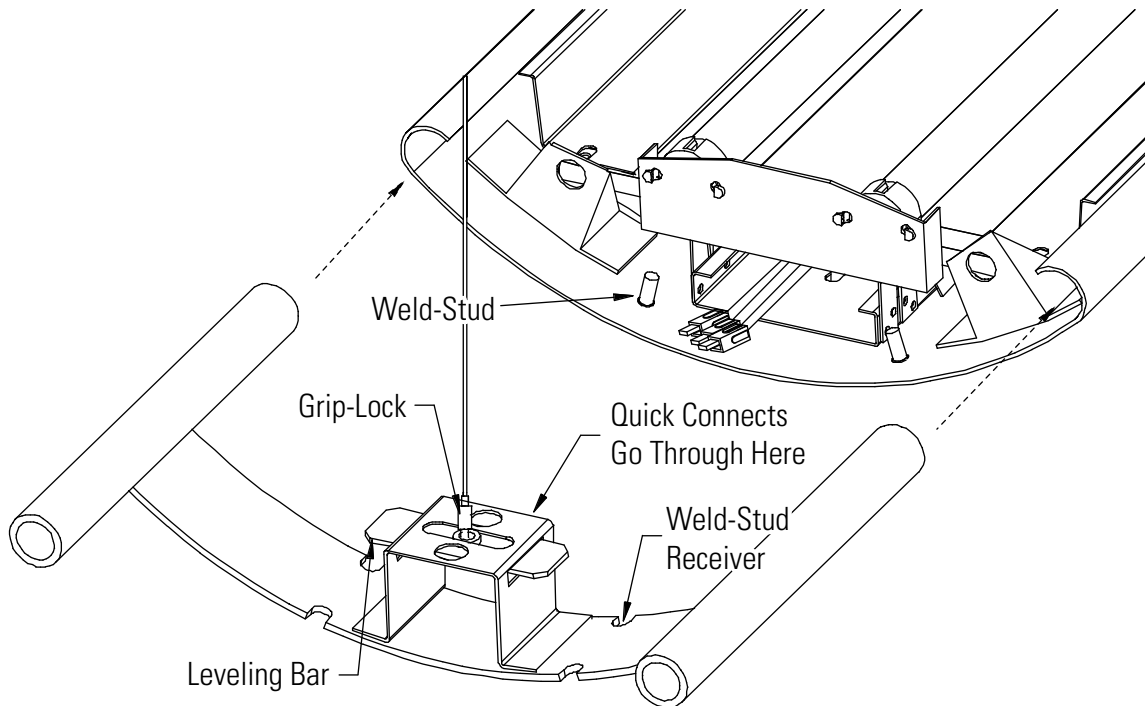

Figure 2
- On the opposite end of the fixture install the joiner assembly. First Slide the joiner assembly on until the weld-studs are flush inside the weld-stud receivers. Tighten the nuts on the weld-studs with a 11/32" socket. (Fig. 2) Do not over tighten.
See step 2. of Phase 1. (Fig. 2)